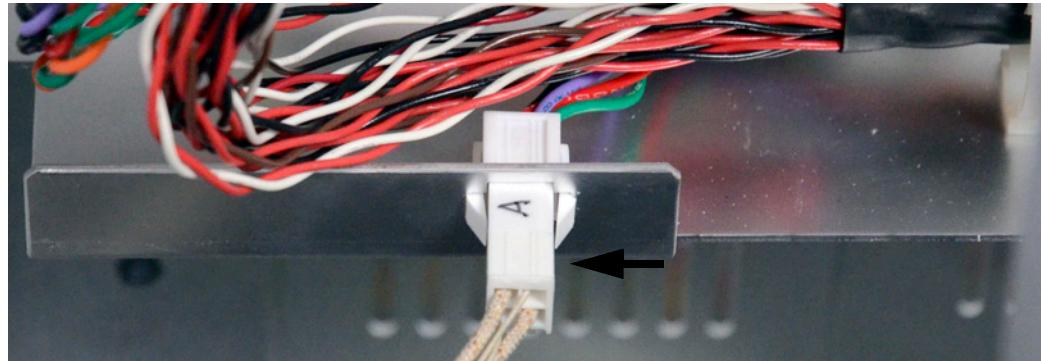

Figure 9 Disconnecting the oven heater connection
- a** Disconnect the oven heater cable (**Figure 9**). The oven heater connection jack is located on the left side behind the oven compartment facing the front of the headspace sampler.